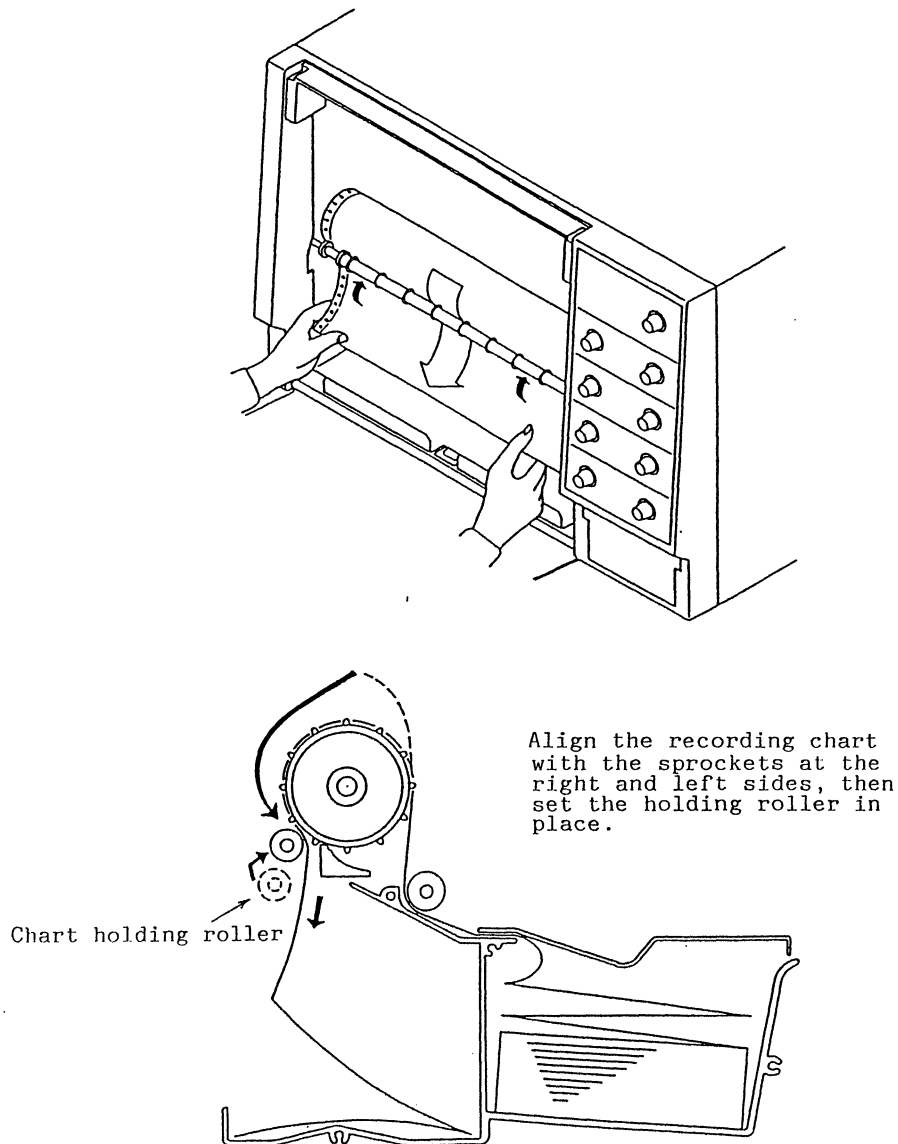

Figure 3.6
- (5) Insert the chart block into the recorder mainframe. When the block is located in place, the chart is automatically fed by 4 to 5 cm, then it stops. This starts the PEN CALL indication LED on the panel to flash.
- (6) Lower the chart holding roller, thread the chart between the chart drum and chart holding roller, and securely set the perforated holes into the sprockets. Then, return the roller to the original position. (Figure 3.6)